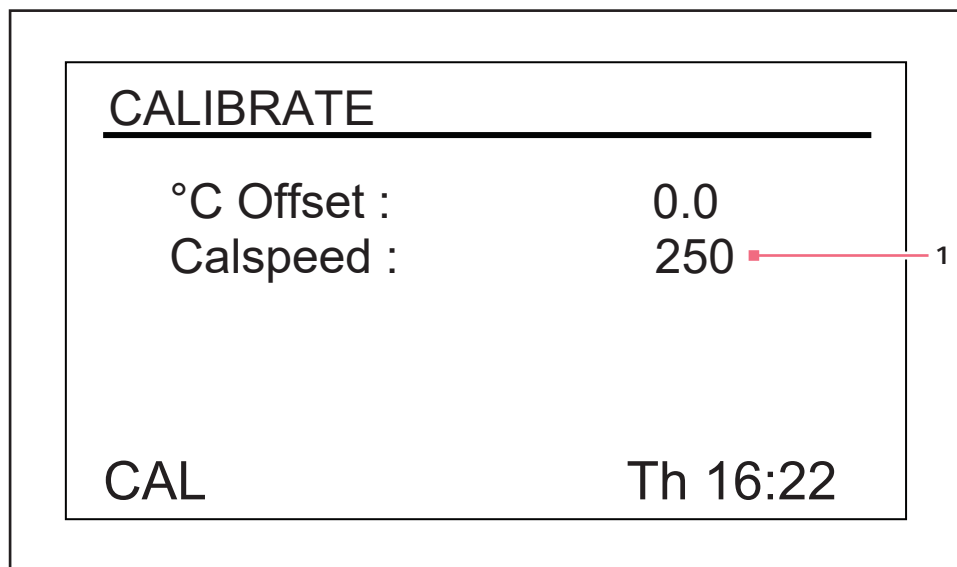

Fig. 9-15: Calibrate screen
1. Use the control knob to enter the *CAL* screen (see Fig. 9-15 on p. 67).
The **Calspeed** function, which is set in the **CAL** screen (see Fig. 9-15 on p. 67), is used to calibrate the speed of the shaking mechanism. Calibrated at the factory, speed does not need to be recalibrated until a major operating component (e.g. drive belt) is changed.